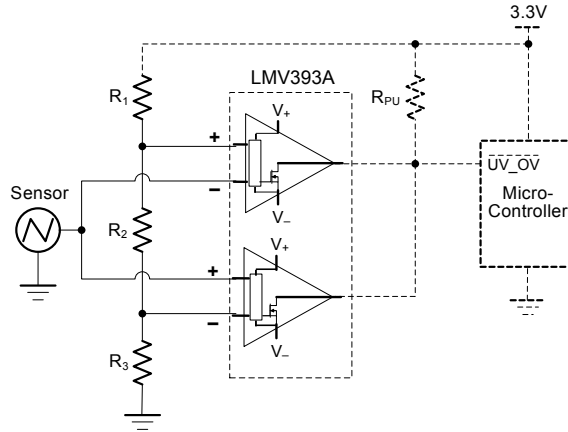
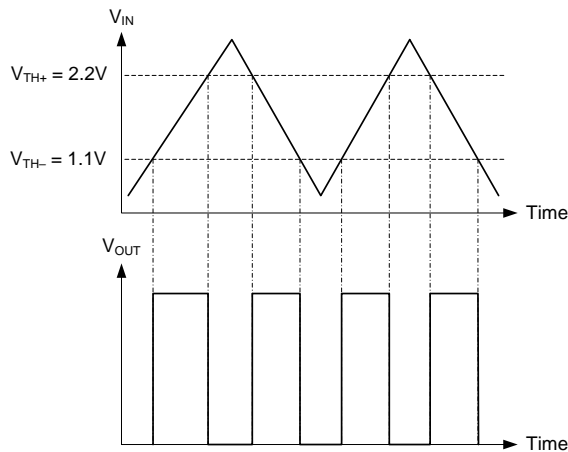

Figure 9-4. Window Comparator
Figure 9-5. Window Comparator Results
Window comparators are commonly used to detect undervoltage (UV) and overvoltage (OV) conditions. Figure 9-4 shows a simple window comparator circuit.
Configure the circuit as shown in Figure 9-4. Connect V+ to a 3.3V power supply and V- to ground. Make R₁, R₂ and R₃ each 10MΩ resistors. These three resistors are used to create the positive and negative thresholds for the window comparator (V_{TH+} and V_{TH-}). With each resistor being equal, V_{TH+} is 2.2V and V_{TH-} is 1.1V. Large resistor values such as 10MΩ are used to minimize power consumption. The sensor output voltage is applied to the inverting and non-inverting inputs of the 2-channel LMV393A's. The LMV393A is used for its open-drain output configuration. Using the LMV393A allows the two comparator outputs to be Wire-ORed together. The respective comparator outputs will be low when the sensor is less than 1.1V or greater than 2.2V. V_{OUT} will be high when the sensor is in the range of 1.1V to 2.2V. See the application curve in Figure 9-5.